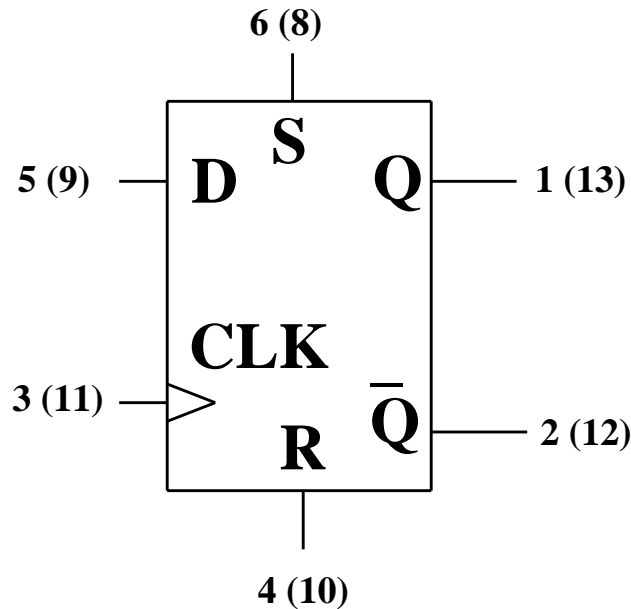

Figure 11.1 The D Flip Flop
The flip flop we will be using is called a **D flip flop**, and is shown schematically in Fig. 11.1. The data input goes to the D terminal. The clock input goes to the triangle. The output comes from Q or \bar{Q} . This flip flop is positive edge triggered, which means that the output is updated every time the clock input changes from a logic 0 to a logic 1. The value of the Q output becomes whatever the value of the D input is at the time of the clock's rising edge. \bar{Q} always has the opposite logic value of Q, and is provided as a convenience for building circuits. There are two more inputs; set (S) and reset (R). When either is at logic 1, regardless of the state of the clock, they override the D input and they make Q a 1 or 0, respectively. For the robot, both S and R will be grounded, and will thus have no impact on flip flop operation.